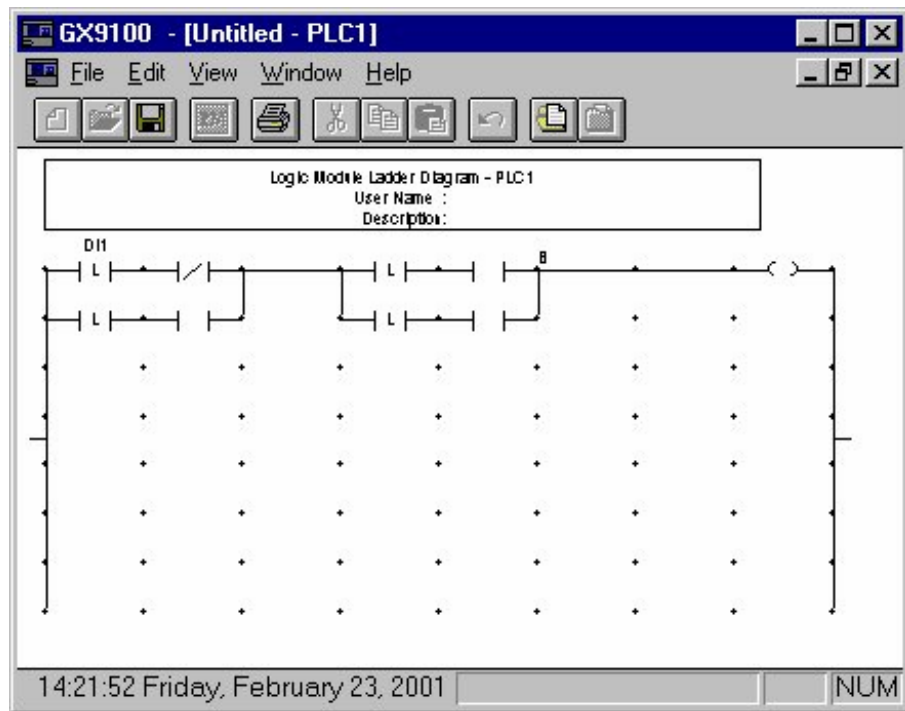

Figure 5-8: LOAD Symbol with Associated Variable DI1
3. Select one of the logic variables and click OK. If you select DI1, the ladder diagram contains the DI1 variable (Figure 5-8).